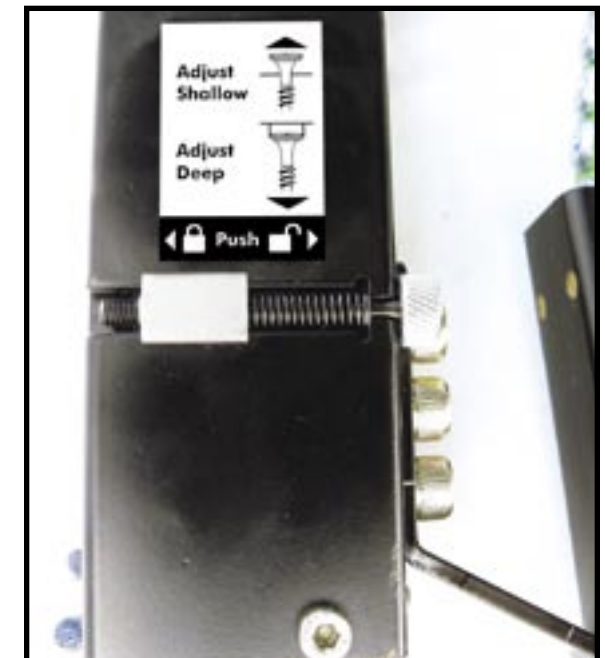

FIGURE 3.
9. Fine tune screw depth by first unplugging screwgun from electrical supply, then adjusting depth control as shown in Figure 3.